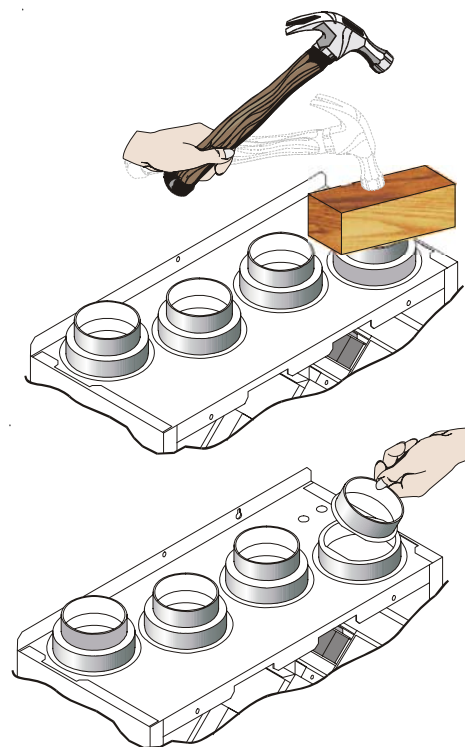

Fig. 2
2.5.2 The centre part of the spigot can easily be removed by placing a flat piece of wood (or similar) over the centre part and applying a sharp tap with a hammer (see fig. 2)